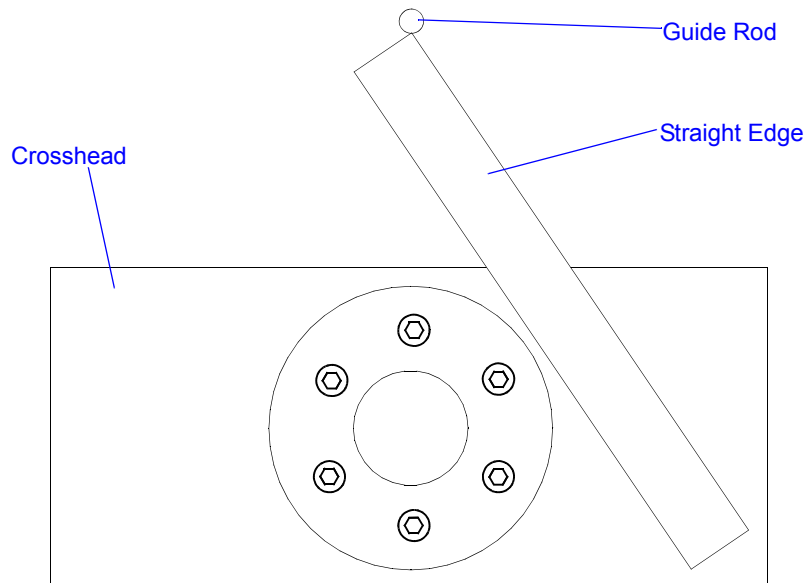

Figure 2-5. Extensometer Alignment
2. Check that the testing area is free from obstruction and place a straight edge on the crosshead, touching the guide rod as shown in Figure 2-5.
4. Adjust the jacking screws in pairs until the guide rod is aligned to within 1 mm over the full travel of the crosshead. Note that one (1) revolution of the jacking screws = 6 mm.